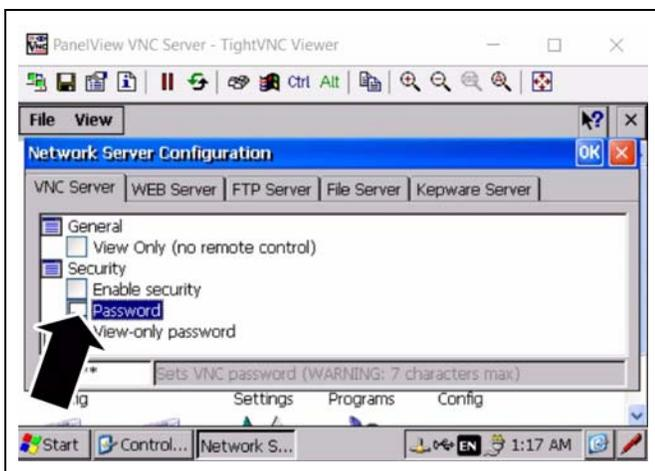
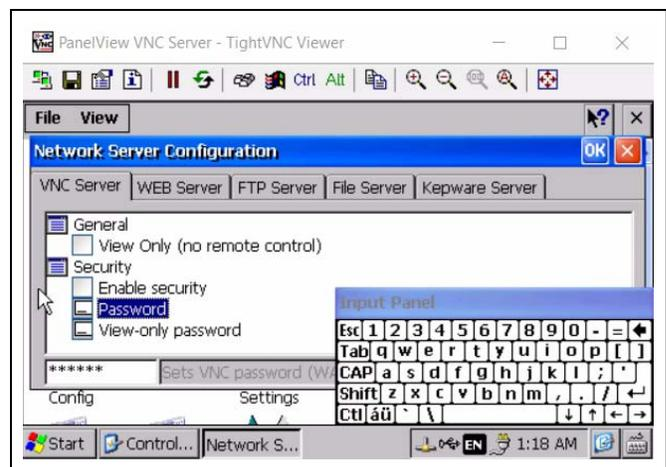

Figure 3N
Figure 3O
10. GSI strongly recommends to add a connection password if the dryer will be connected to the internet. The password can be up to seven characters and should contain upper and lower case letters, numbers, and at least one special character. (See Figure 3N and Figure 3O.)
11. Click “Yes” to restart the services. (See Figure 3N.) You will then be taken back to this screen as shown in Figure 3O.